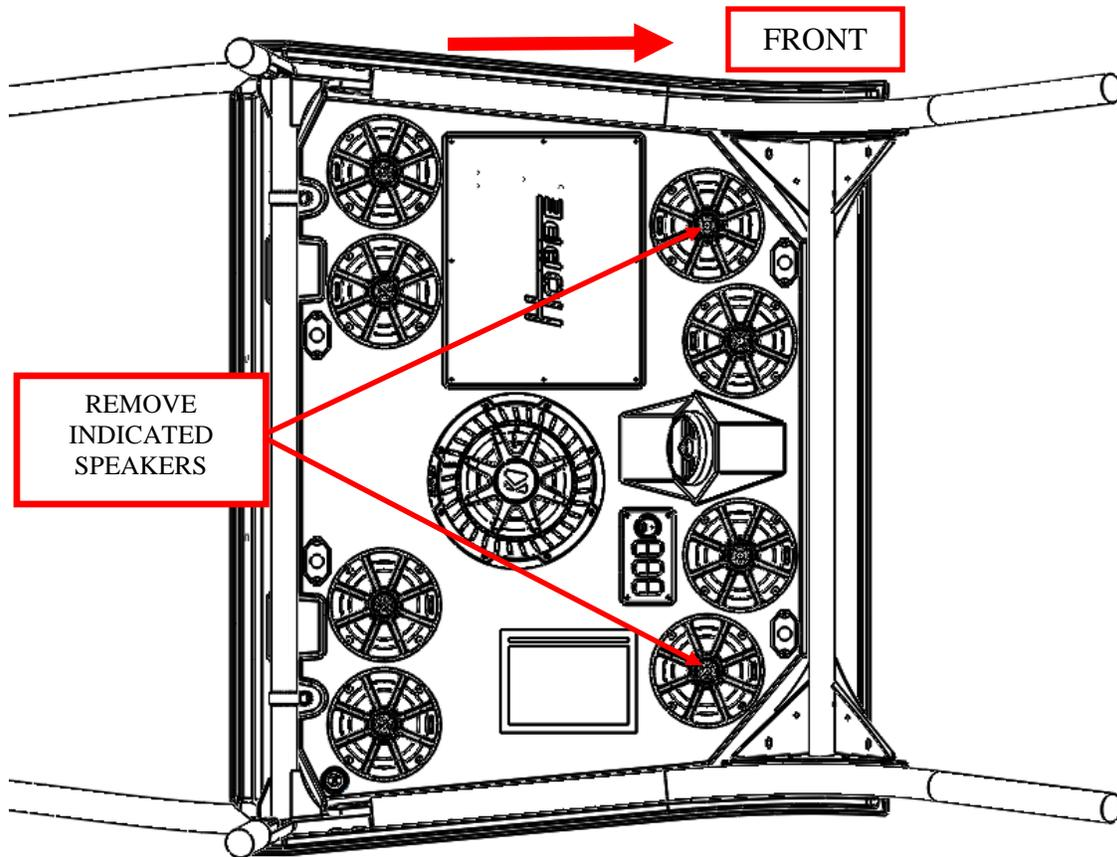

Figure 7: Install the top on the cage (view looking up from inside).
4. Using a few assistants, set the *Audio Shade* off-road top on the cage. The top is contoured such that the cage fits inside the grooves on the top. **Note: The top weighs up to 100 lbs. depending on your configuration. Since you will have to lift and reach, it is helpful to have 4 people for this step.** See Figure 7.
5. Remove the two front outer 6.5" speakers so you can reach your hand inside the top. The speakers are held in place with 4-Philips screws each. Once the screws are removed, lower the speaker by hand to reach behind and disconnect the speaker wires. See Figure 7.